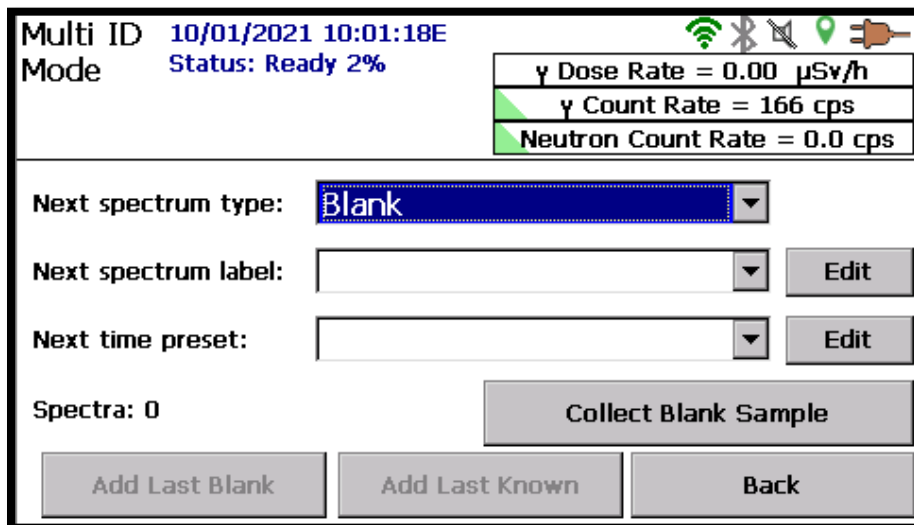

Figure 67. Set Up Parameters for Multiple Spectrum ID Mode
- In this mode, each time ID Mode is entered, the Multi ID Mode page shown in Figure 67 will be displayed so the user can set up and annotate the multiple measurements to be made.
5. When spectrum acquisition is complete, the screen will switch to the Multi ID Mode screen (Figure 67) and wait for information to be entered for the next spectrum. The bottom-left **Spectra** counter will track the number of spectra that has been added to the file so far; and the **Back** button will change to **Finalize**.